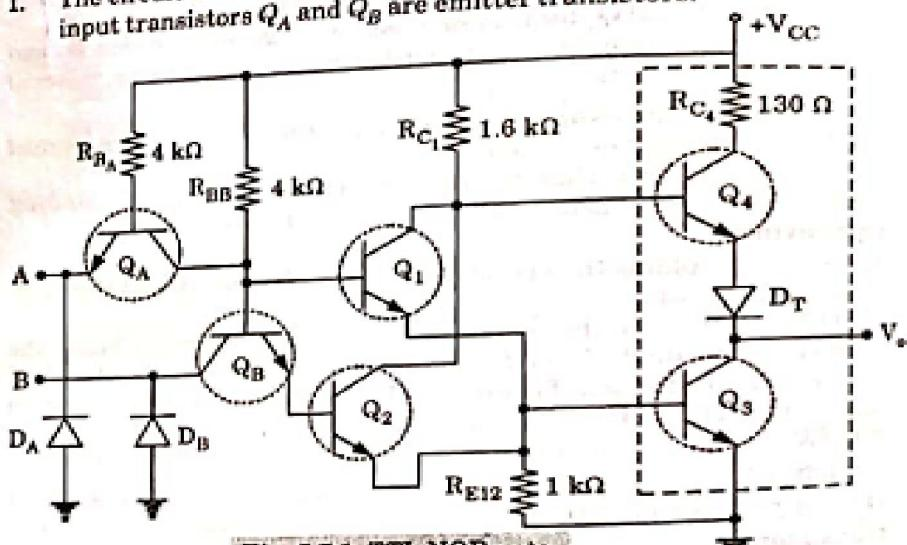

Fig. 5.7.1. TTL NOR gate.
- The circuit of the two-input TTL NOR gate is shown in Fig. 5.7.1. Two input transistors Q_A and Q_B are emitter transistors.